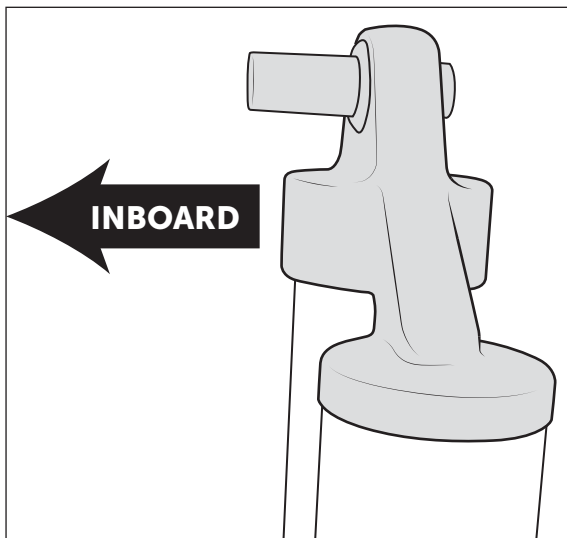
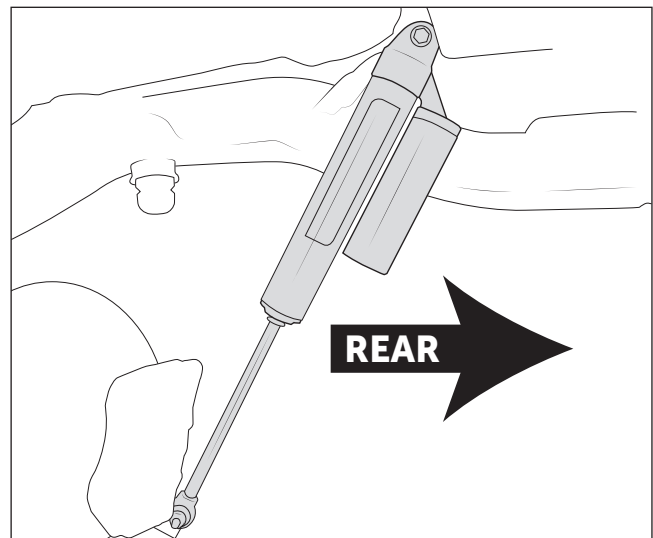

Figure 10
Figure 11
1. Install shock using factory hardware at both ends. Offset upper bushing should be installed with long end toward inside of vehicle so that shock body clears the frame (fig. 10). Reservoir should point toward the rear when installed (fig. 11).